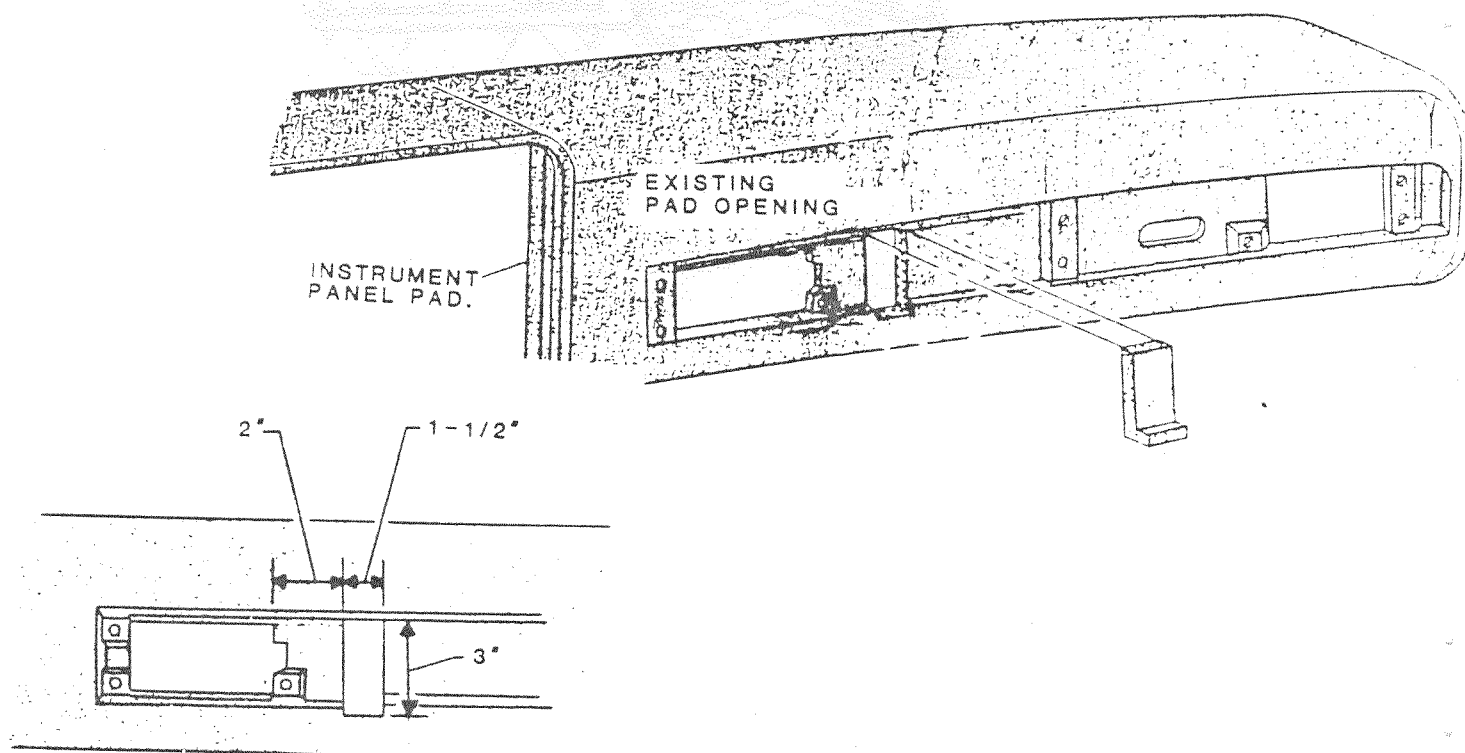

Figure 13.
75. Cut out padded dash (Figure 13.).
99. Install jacknuts for fuel filter on left inner fender with jacknut tool and bolts supplied (Figure 13.).